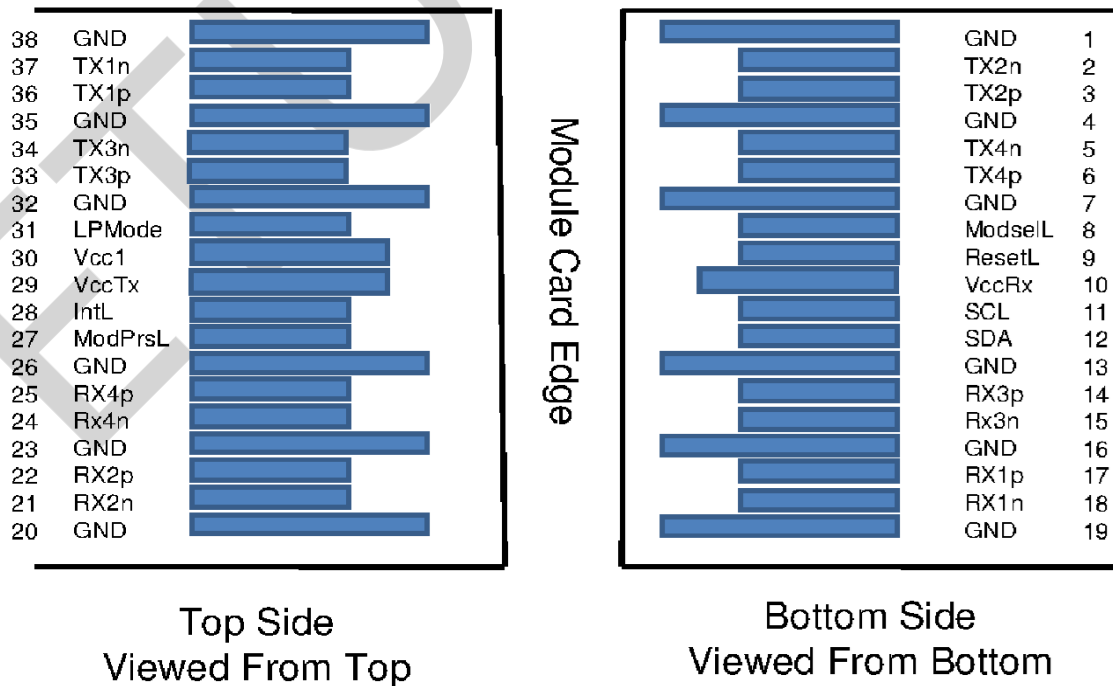

Figure 2, Pin View for QSFP5
4. Plug Sequence specifies the mating sequence of the host connector and module. The sequence is 1A, 2A, 3A, 1B, 2B, 3B. (see Figure 2 for pad locations) Contact sequence A will make, then break contact with additional QSFP-DD pads. Sequence 1A, 1B will then occur simultaneously, followed by 2A, 2B, followed by 3A, 3B